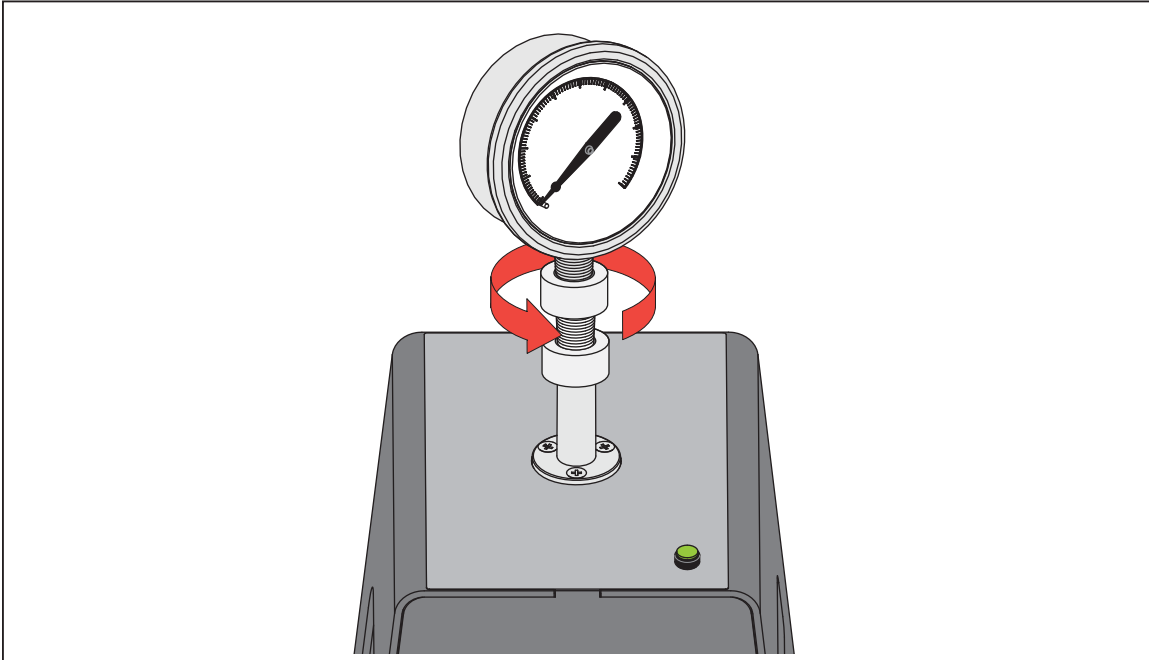

Figure 19. Connect Assembly to Test Port
2. Screw down the assembly COUNTER-CLOCKWISE on to the test port, see Figure 19.